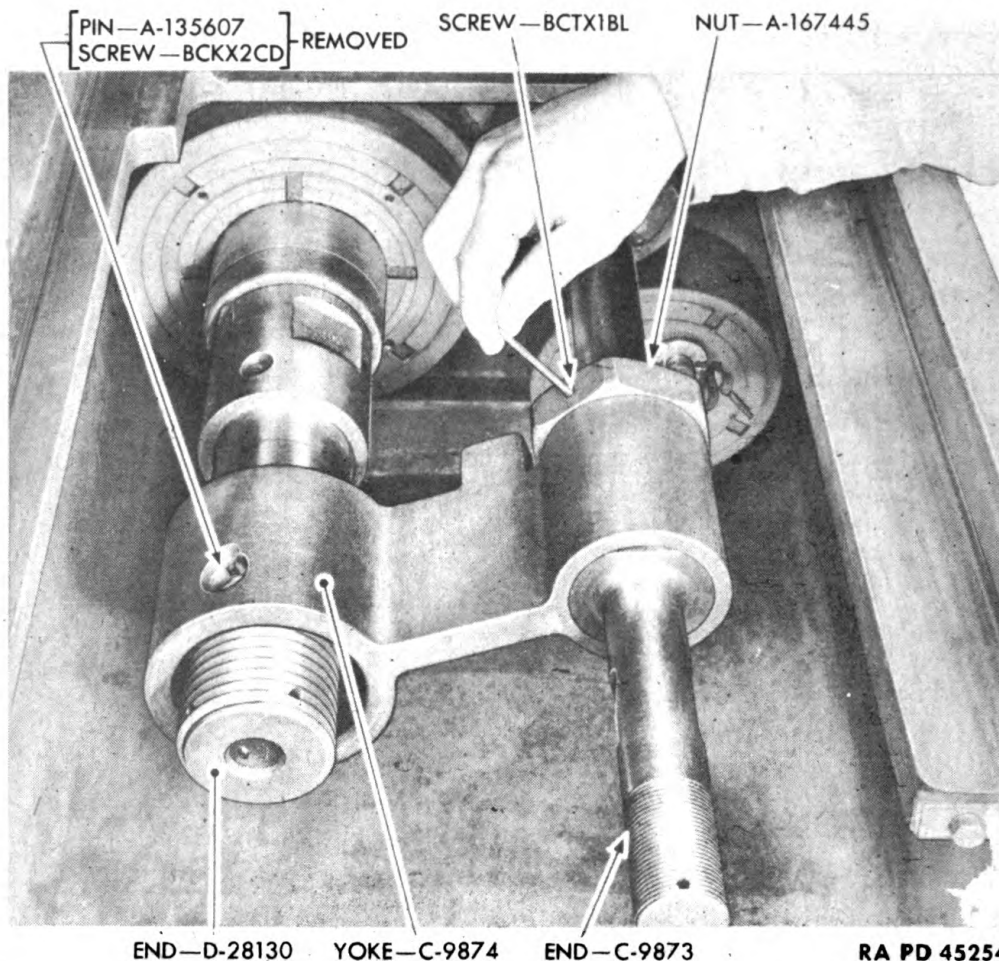

Figure 125—Removing Screw from Nut on Counterrecoil Piston Rod End
counterrecoil piston rod far enough to permit removal of end C9873. The recoil piston rod will not come back with counterrecoil rod after yoke has been disconnected from end D28130. Remove screw BCTX1BL and unscrew nut A167445 from end C9873 (fig. 125).
(9) Slide the recoil and counterrecoil piston rod yoke forward into place on the counterrecoil piston rod end. Tighten piston rod end yoke nut. Secure nut with safety set screw (fig. 125).